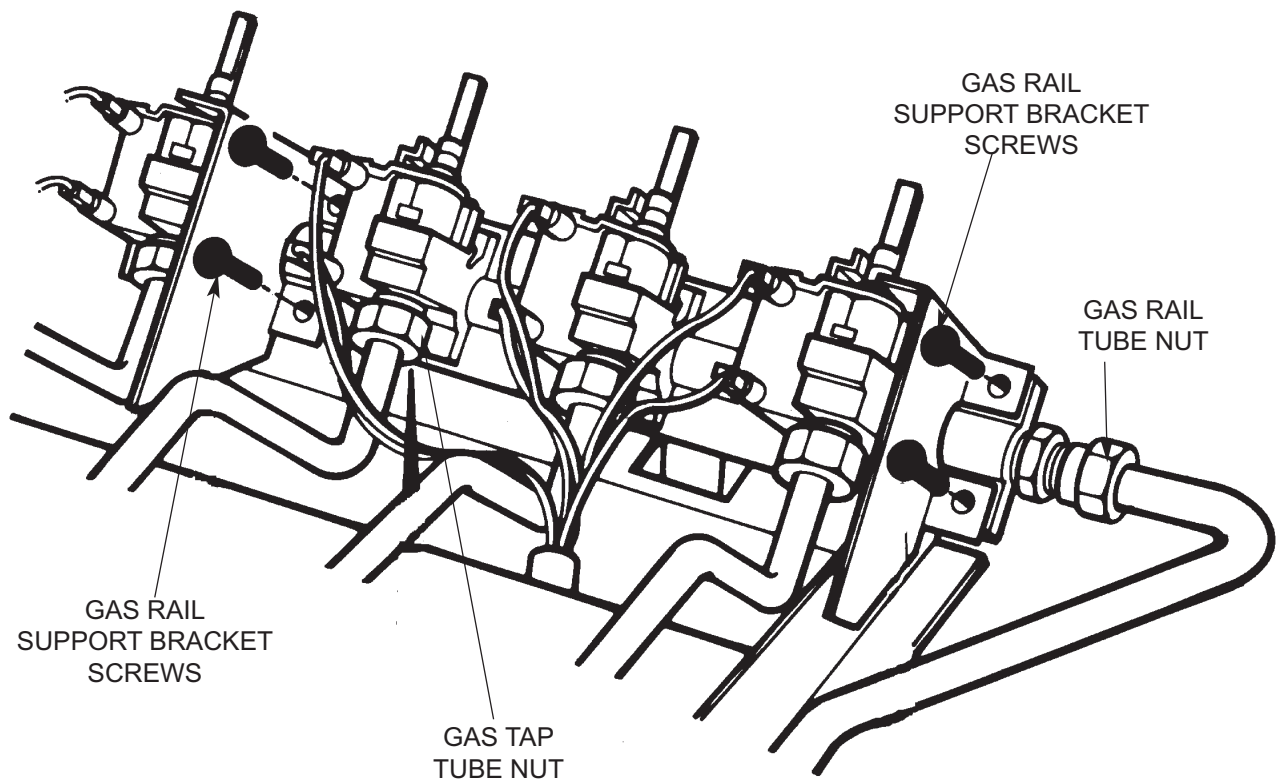

Fig. 19
5. Disconnect gas rail tube and remove 4 screws from gas rail support brackets. (See Fig. 19).